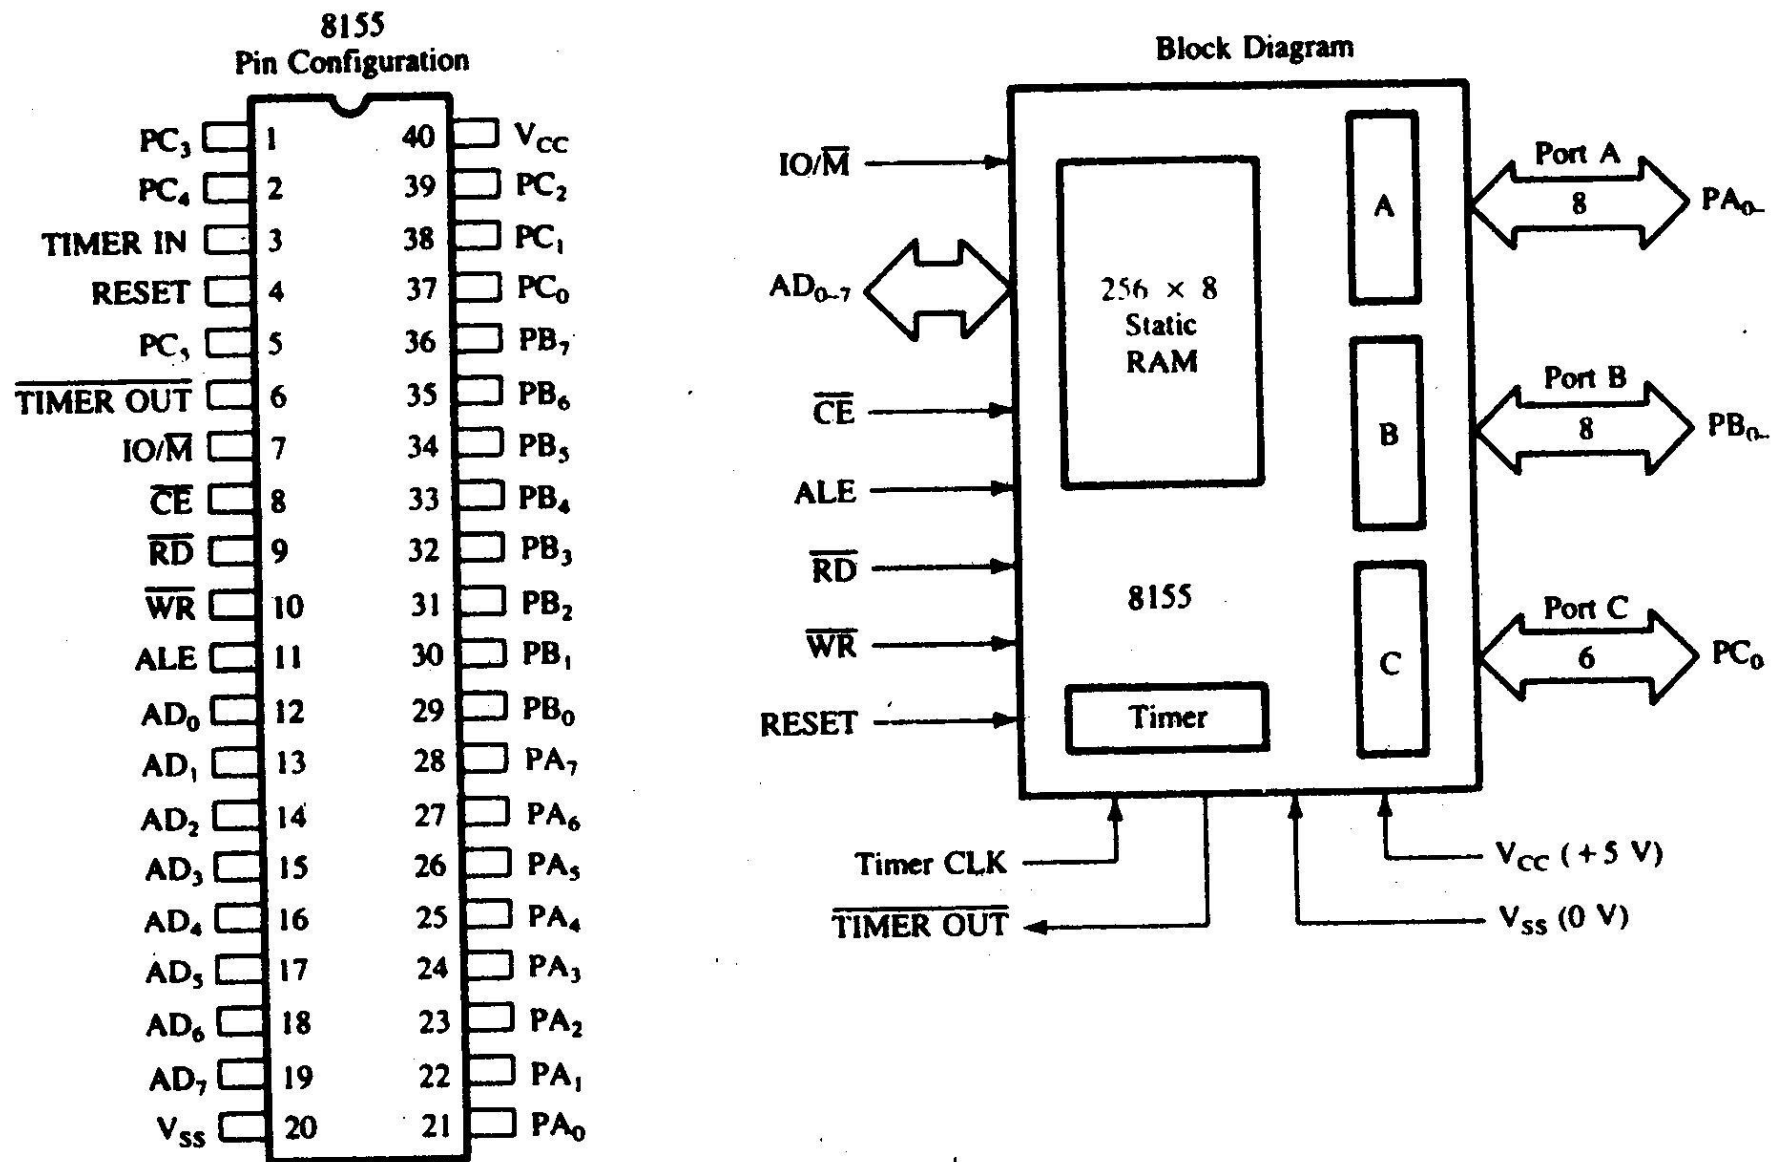

FIGURE 14.5
The 8155 includes 256 bytes of R/W memory, three I/O ports, and a timer. Figure 14.5 shows the pin configuration and block diagram of the 8155 programmable device. The programmable I/O sections of this device are illustrated in the following sections:
The I/O section includes two 8-bit parallel I/O ports (A and B), one 6-bit port (C), and a timer (Figure 14.5). All the ports can be configured simply as input/output ports. Ports A and B also can be programmed in the handshake mode, each port using three signals from port C. The timer is a 14-bit down-counter and has four modes.